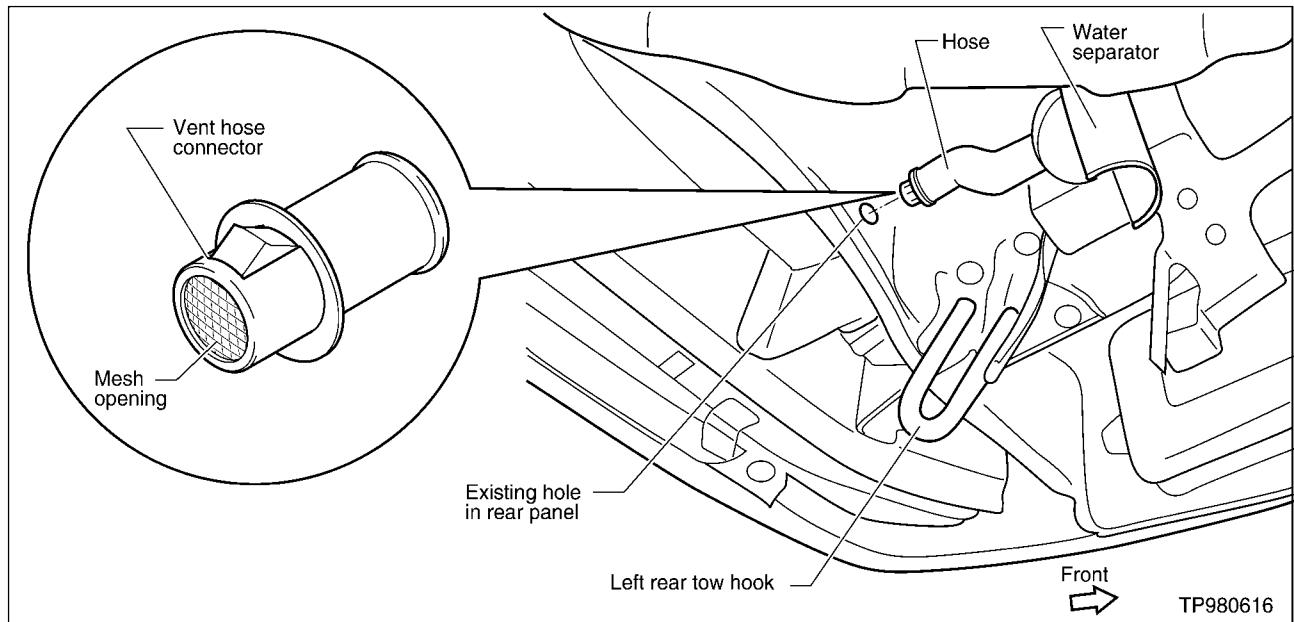

Figure 8
- E. Insert the vent hose connector into the existing hole in the vehicle rear panel (see Figure 8).